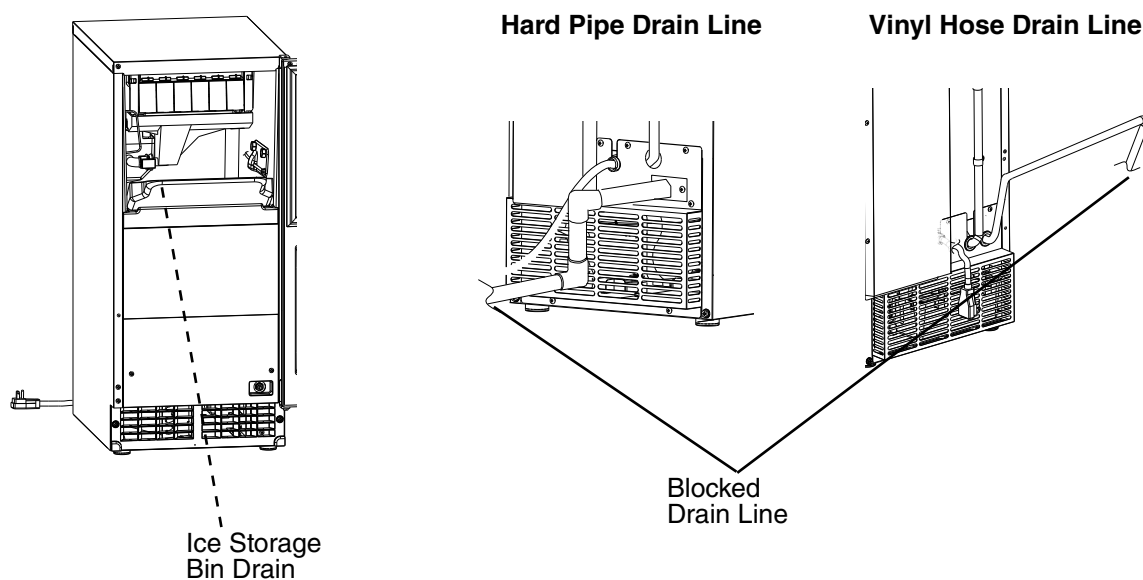

Fig. 30
- 17) Check the drain pump back-up safety switch: Pour another 24 to 30 oz. (710 to 890 ml) of water into the appliance's ice storage bin, then completely restrict/block the appliance hard pipe drain line or the appliance vinyl tubing drain line while the drain pump is operating. See Fig. 30. Pour more water into the icemaker's ice storage bin until the appliance turns off. The drain pump will continue to operate. Check for leaks.